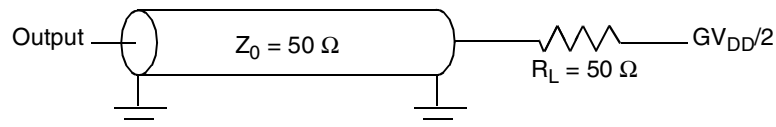
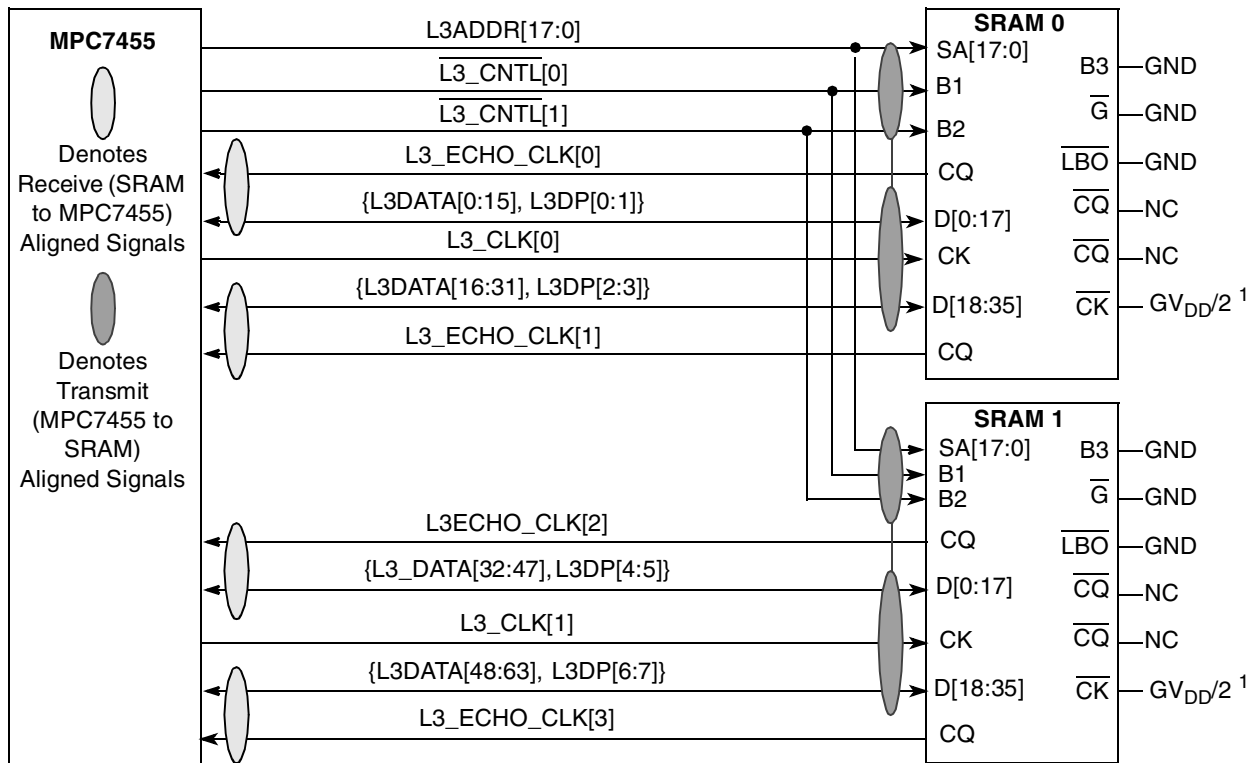
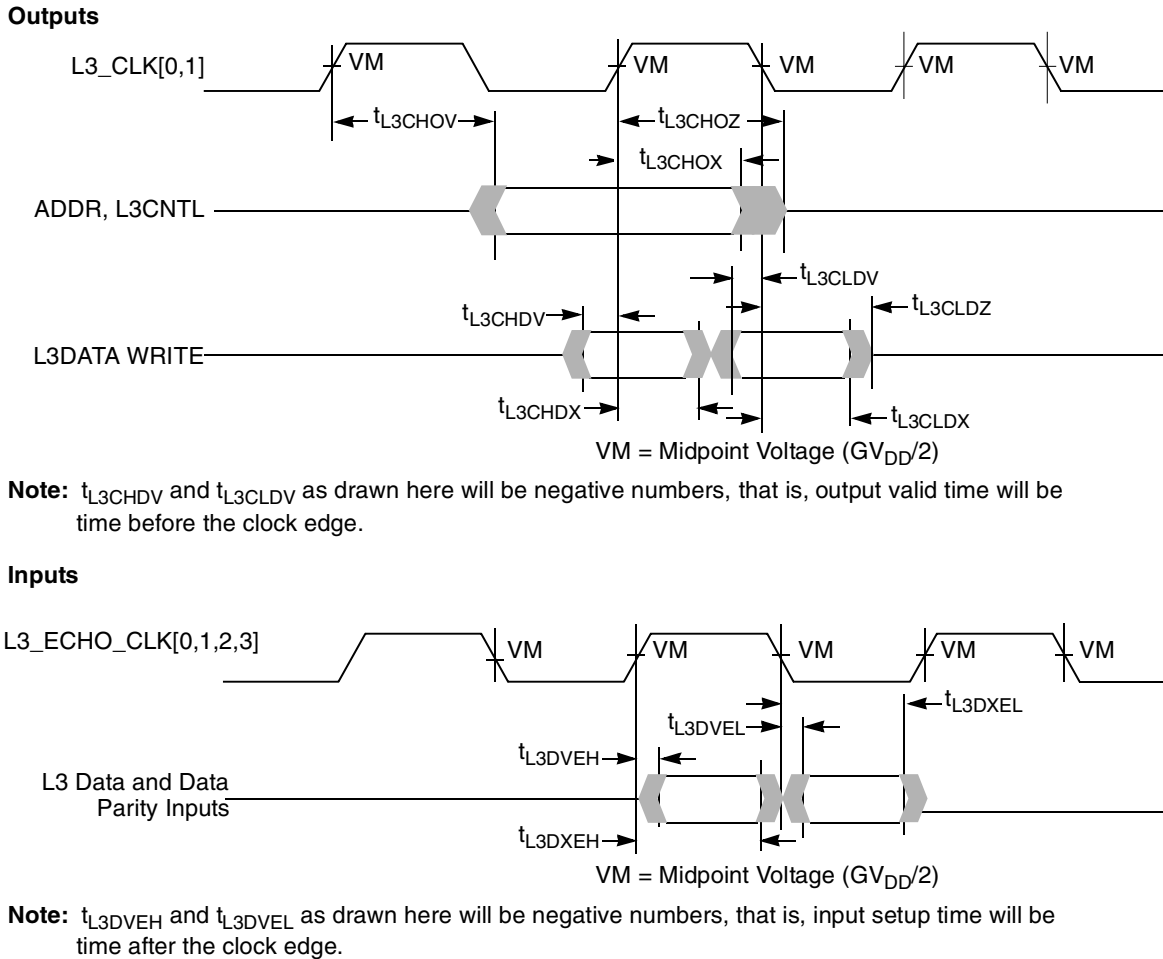
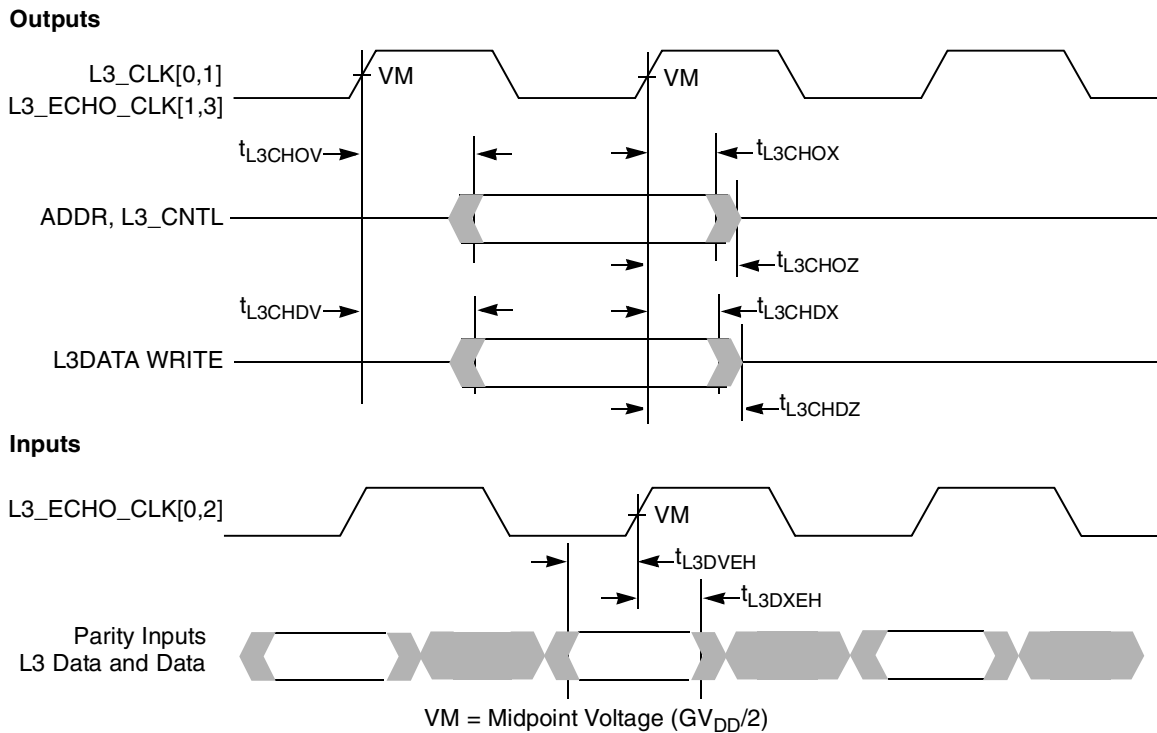

Figure 8. AC Test Load for the L3 Interface
Figure 9. Typical Source Synchronous 2-Mbyte L3 Cache DDR Interface
Figure 10. L3 Bus Timing Diagrams for L3 Cache DDR SRAMs
Figure 12. L3 Bus Timing Diagrams for Late Write or PB2 SRAMs
- For high speed operations, L3 interface address and control signals should be a ‘T’ with minimal stubs to the two loads; data and clock signals should be point-to-point to their single load. Figure 8 shows the AC test load for the L3 interface.
More specifically, certain signals within groups should be delay-matched with others in the same group while intergroup routing is less critical. Only the address and control signals are common to both SRAMs and additional timing margin is available for these signals. The double-clocked data signals are grouped with individual clocks as shown in Figure 9 or Figure 11, depending on the type of SRAM. For example, for the MSUG2 DDR SRAM (see Figure 9); L3DATA[0:31], L3DP[0:3], and L3_CLK[0] form a closely coupled group of outputs from the MPC7455; while L3DATA[0:15], L3DP[0:1], and L3_ECHO_CLK[0] form a closely coupled group of inputs.
When using DDR MSUG2 SRAMs at the L3 interface, the parts should be connected as shown in Figure 9.
Table 12 provides the L3 bus interface AC timing specifications for the configuration as shown in Figure 9, assuming the timing relationships shown in Figure 10 and the loading shown in Figure 8.
2. For DDR, all input specifications are measured from the midpoint of the signal in question to the midpoint voltage of the rising or falling edge of the input L3_ECHO_CLK_n (see Figure 10). Input timings are measured at the pins.
3. For DDR, the input data will typically follow the edge of L3_ECHO_CLK_n as shown in Figure 10. For consistency with other input setup time specifications, this will be treated as negative input setup time.
5. All output specifications are measured from the midpoint voltage of the rising (or for DDR write data, also the falling) edge of L3_CLK to the midpoint of the signal in question. The output timings are measured at the pins. All output timings assume a purely resistive 50-Ω load (see Figure 8).
6. For DDR, the output data will typically lead the edge of L3_CLK_n as shown in Figure 10. For consistency with other output valid time specifications, this will be treated as negative output valid time.
Figure 9 shows the typical connection diagram for the MPC7455 interfaced to MSUG2 SRAMs such as the Freescale MCM64E836.
Figure 10 shows the L3 bus timing diagrams for the MPC7455 interfaced to MSUG2 SRAMs.
Table 13 provides the L3 bus interface AC timing specifications for the configuration shown in Figure 11, assuming the timing relationships of Figure 12 and the loading of Figure 8.
2. All input specifications are measured from the midpoint of the signal in question to the midpoint voltage of the rising edge of the input L3_ECHO_CLK n (see Figure 10). Input timings are measured at the pins.
3. All output specifications are measured from the midpoint voltage of the rising edge of L3_CLK n to the midpoint of the signal in question. The output timings are measured at the pins. All output timings assume a purely resistive 50- Ω load (see Figure 10).
Figure 12 shows the L3 bus timing diagrams for the MPC7455 interfaced to PB2 or late write SRAMs.